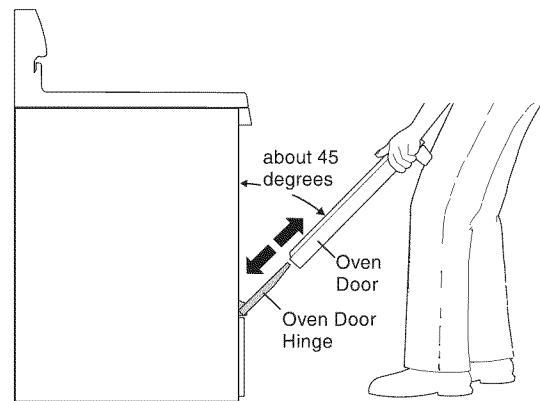

Figure 18: Removing oven door
5. Grasp oven door firmly on both sides and slide door up and off hinges at the same angle (Figure 18).
2. Hold door at the sides near the top while resting the lower front of door on your knee. Insert the door channels at the bottom of door over the door hinges, (Figure 18).